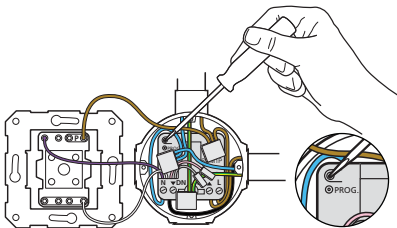

Figure 9. Activating and cancelling the programming mode.
* Push the programming button for at least 3 seconds, see figure 9, when you release the button the red LED will illuminate.